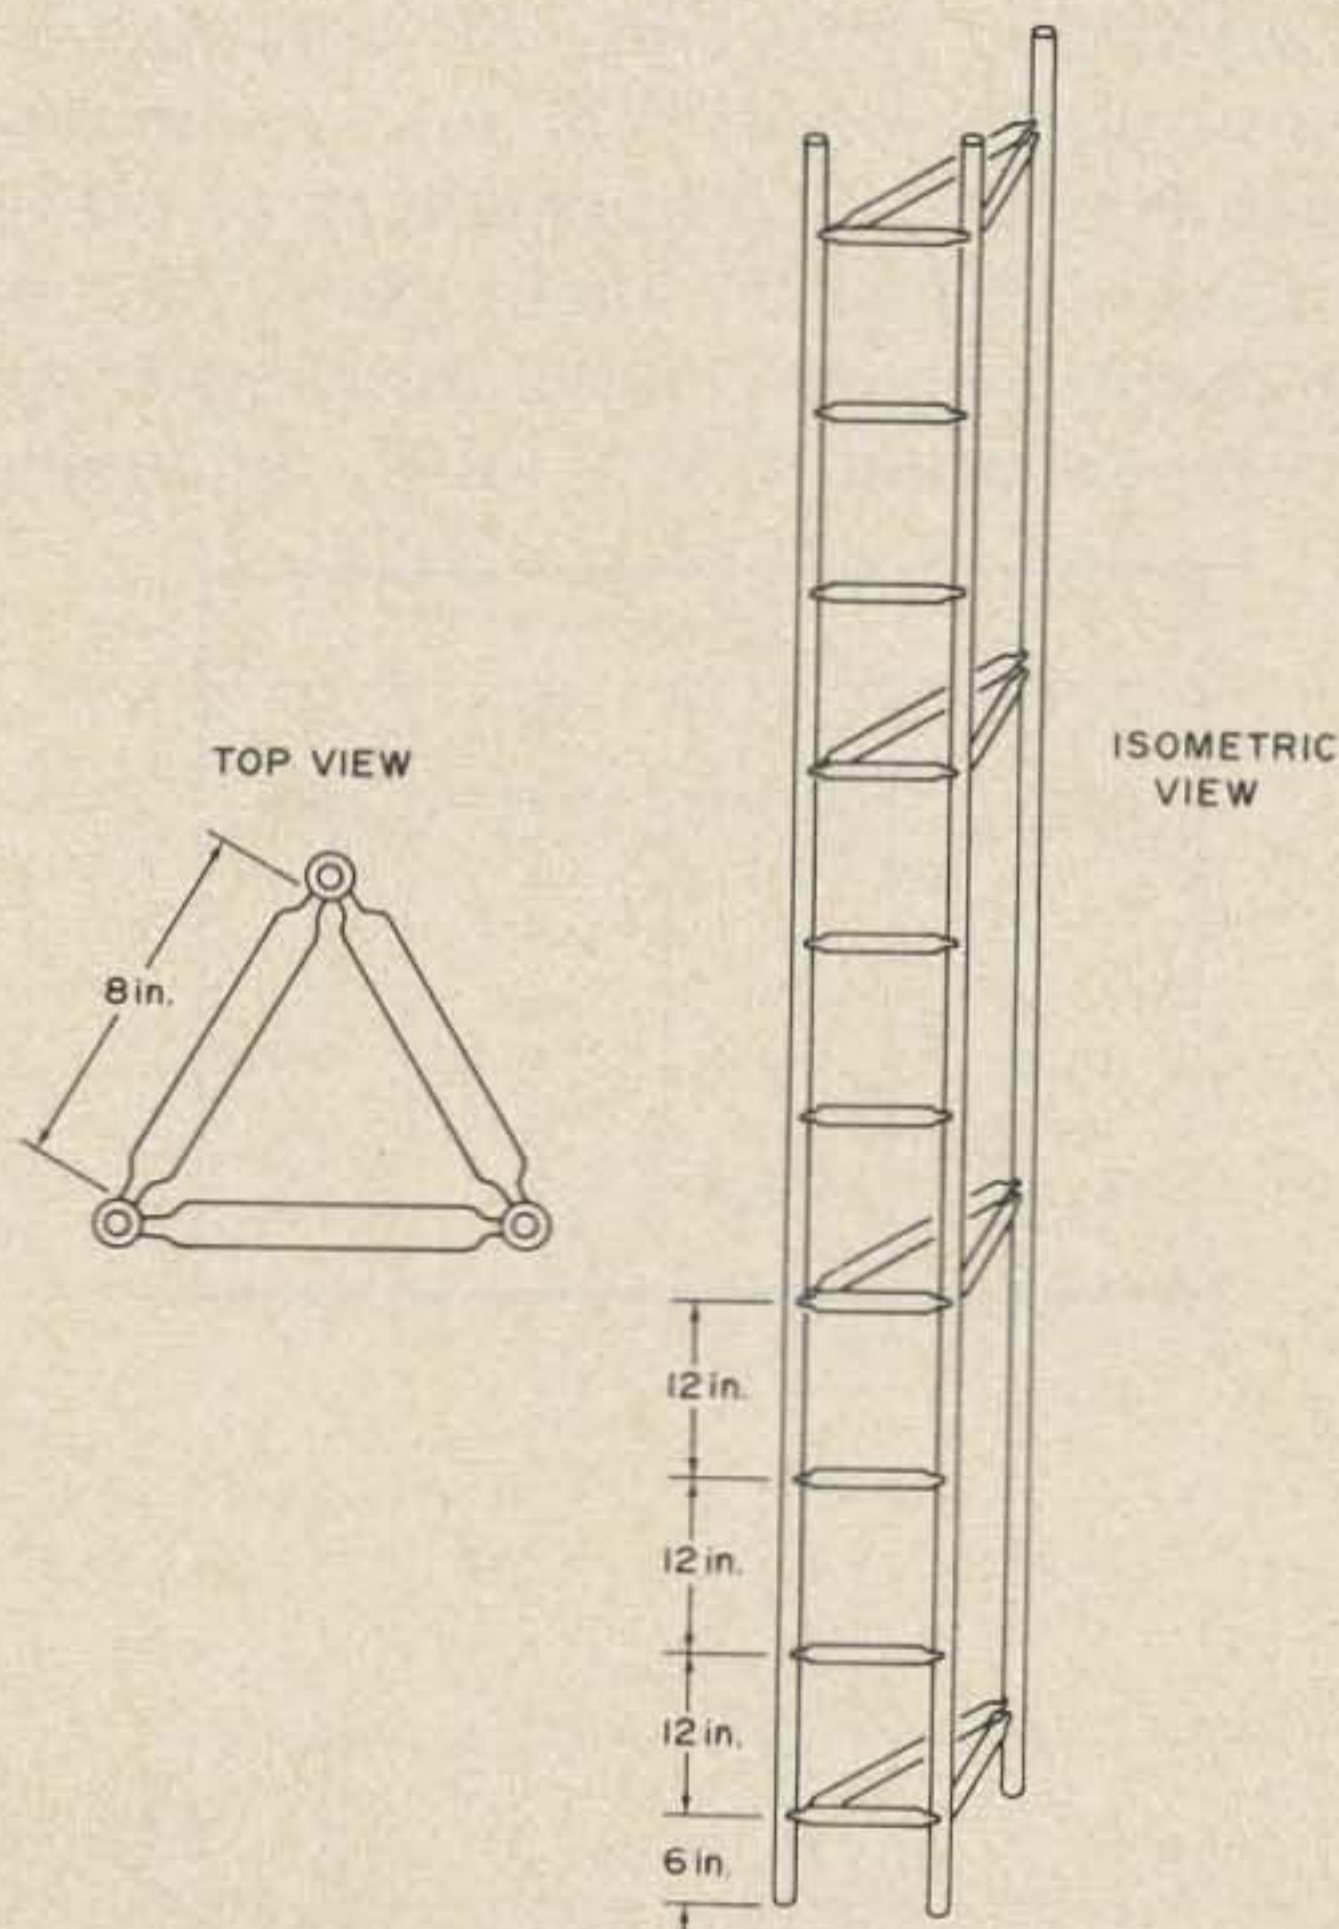

Fig. 1. Basic Building Block.
Pin detail and dc voltage reading. Pin 1, the base of Q2 is shown separate in Fig. 3 for clarity. Referring to Fig. 1 for all the following, pin 1 has a 5K resistor to +12 and a 10K to ground as a voltage divider. On a VTVM I find 7 volts dc. Pin 2 is the base and rf input to Q1, with a 2.2K to 1K voltage divider, and 3.4 volts. Pin 3 is the emitter of Q1, 1K to ground, and 2.5 volts dc. Pin 4 is not used but is bypassed. 0 volts. Pin 5 is grounded to the baseboard and has a crossover wire to pin 12, and is also soldered to the shield. Pin 6 is the collector of Q6 and is not used, but is bypassed. 0 volts. Pin 7 is the collector of Q5, and is the rf output pin. 12 volts.
For almost all receiver work, a pair of 6 volt "lantern batteries" do quite well on the bench. I always have several sets of these around, with a switch and 100 mil meter in series. On applying 12 volts the CA3102E, biased for best operation, will show between 20 and 25 mils total. Looking at Fig. 1, one would expect that there would be a certain balance of current in each of the compound amplifiers. That is, the total current depends on the two base bias voltages plus the emitter self bias of Q4 and Q1. The values shown are for maximum gain, plus stable operation with no feedback showing, or any trace of self oscillation. A slight variation may be found in the final emitter resistor of Q1 and in the voltage divider of Q1, which wound up as 3.9K instead of 2.2K. With the rig running, I would advise checking these two components. There is nothing critical there, just a few db more or less of gain. Use lower current for a better noise figure, in general. I used my trusty infinite-attenuator-generator on these tests (look in 73 magazine naturally!) and found that the gain of this small coil and component rig previously shown in 73. Use a tuned diode detector to be sure of the frequency, and also that there is only one frequency in the output! This would be the case where self-oscillation existed. This would generally show up as current in the output, but not always. Sometimes the application of a signal will trigger those nuisance voltages. It is a good thing to *listen* to the output also by means of an af amplifier plugged in on the diode output.
In the "Thinking about a tower" days, all kinds of questions arose, such as: What shear and compression forces are involved? What bending moments are acting on a section? What icing load will it stand? Not having access to much tower design information, I proceeded to weld (braze) up a ten foot section. See Fig. 1. Placing saw horses under the ends and sitting 300 pounds of people-weight on the center of the span hardly caused it to sag!! This empirical experimentation convinced me this was strong enough for amateur use.
Fig. 1, is a drawing of the building block tower section. It requires three (3) ten foot lengths of EMT, and 18 spacers each eight inches long. After cutting the spacers to length, grip the last 3/4 inch of the spacer in a vise and crush the ends *almost* flat. Use care to position each end of the spacer for crushing so that the flat ends are parallel. This permits snug fitting of the spacer against the tower leg for welding. A couple of trials and you'll produce perfectly formed spacers every time.